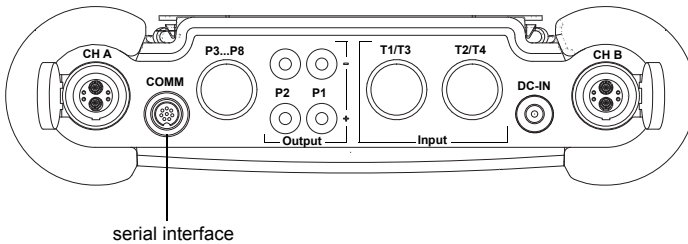

Fig. 6.13: Connections of the transmitter FLUXUS F601
- Connect the RS232 cable to the transmitter (see Fig. 6.13) and to the serial interface of the PC. Use the RS232 adapter for the connection of the RS232 cable to the transmitter. If the RS232 cable cannot be connected to the PC, use the RS232/USB adapter.